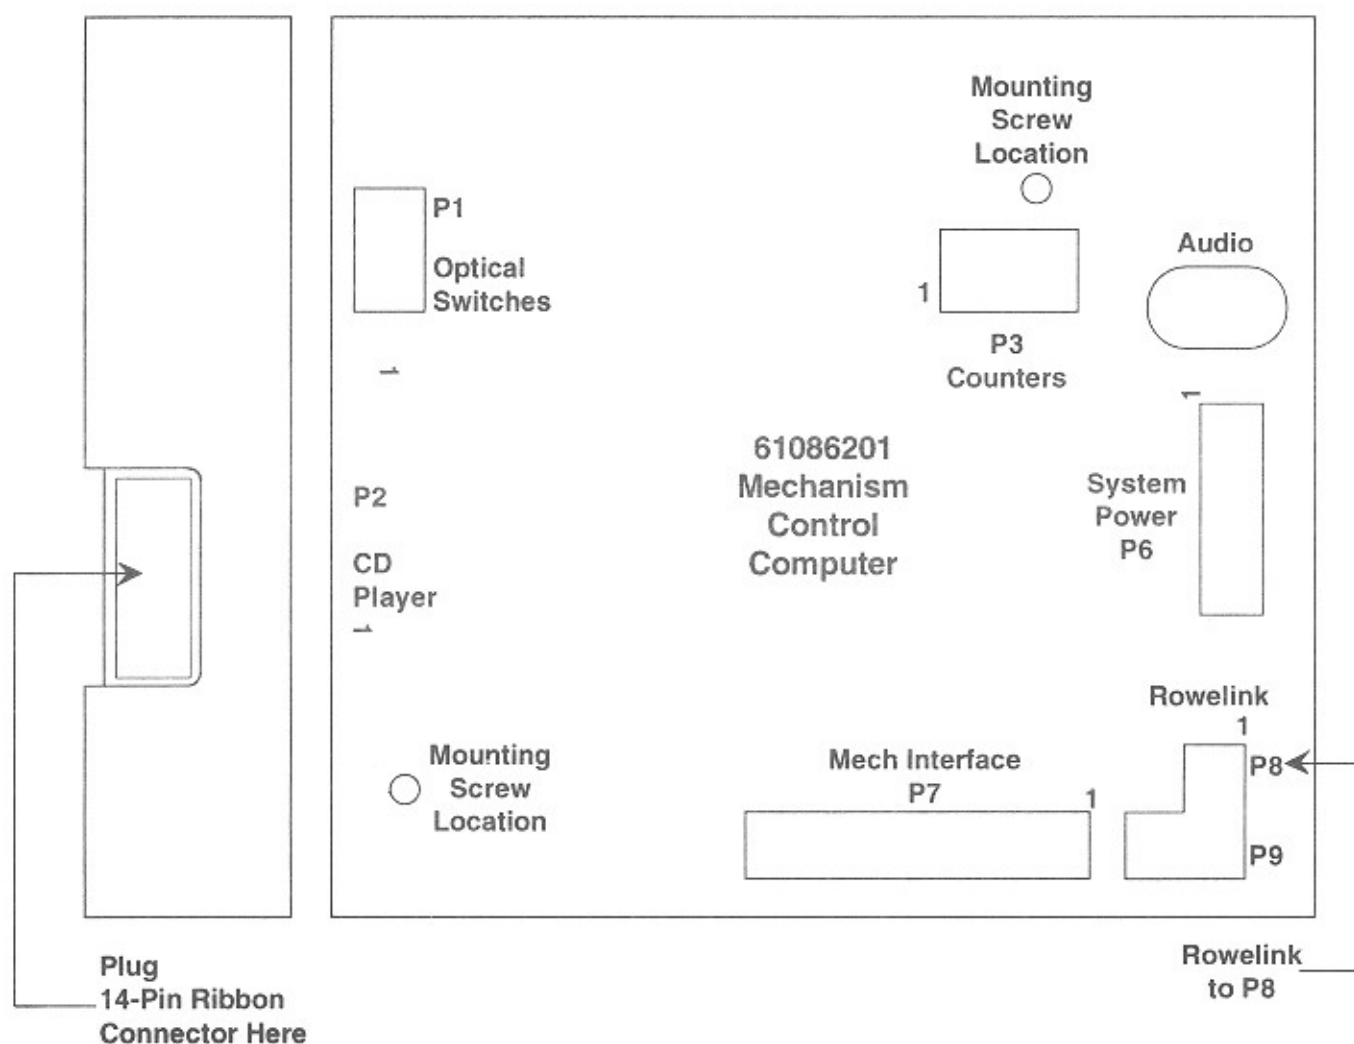

Figure 6-1. Mechanism Control Connecting Diagram
2. Remove all connectors from the mechanism control unit, loosen the two mechanism control unit mounting screws (*Figure 6-1*), and remove the mechanism control unit. Then remove the 14-pin ribbon connector.